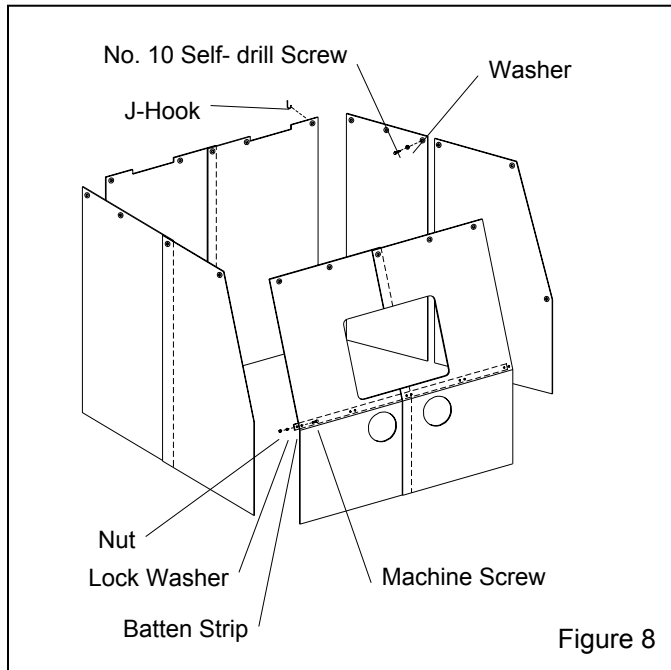

Figure 8
3.2 Curtain Installation, Figure 8
3.2.1 Match the curtains to the corresponding wall and door as shown in Figure 8. Hook the curtains to the J-Hooks welded along the top of the front, back, and side walls. Cut openings for the hoses on the lower left rear wall.
3.2.3 For front walls, place the batten strip over the curtain, and clamp it in position on the front slope above the break as shown in Figure 8. Match drill .187" (3/16") diameter holes through the rubber and cabinet front at each batten hole. To install the batten insert #10-24 x 1" round head machine screws through the cabinet front, curtain and batten. Install lock washers and nuts from inside the cabinet and tighten securely.
5.3.2 If media does not flow smoothly, loosen the locking nut, and adjust the metering screw until the upper holes in the metering stem are closed-off, and the lower holes are fully open. See Figure 8. This adjustment is a starting point.